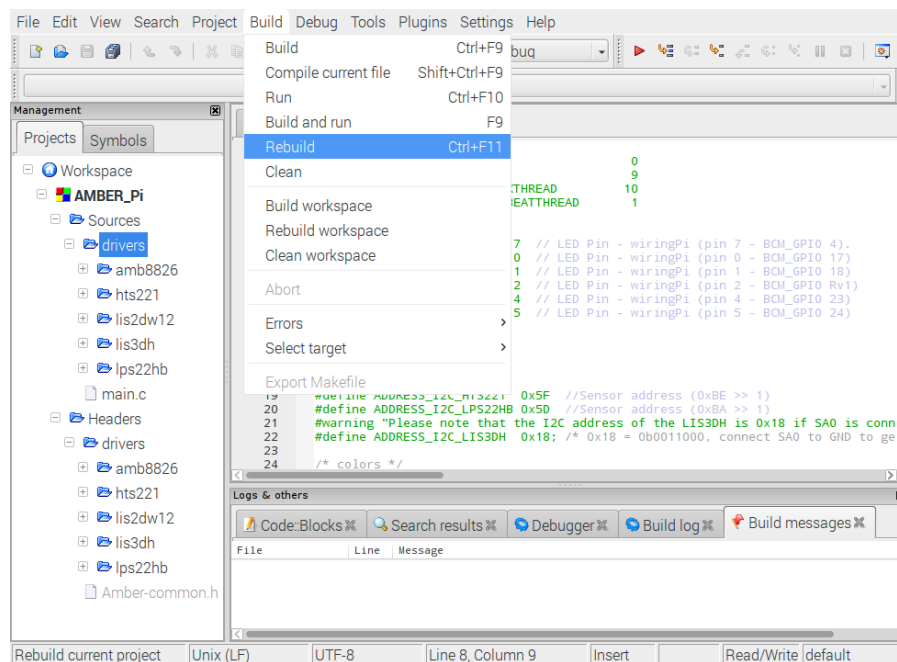

Figure 9: Rebuild the application
8. Then press **Build** → **Rebuild** to build the project (see figure 9).